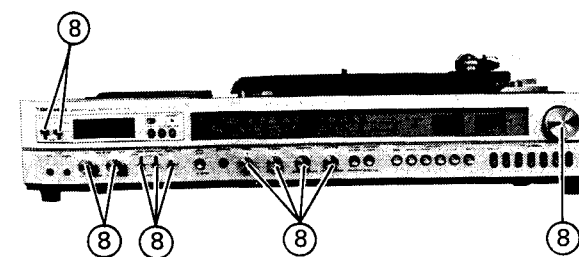

Figure 11.
4. Remove the 12 knobs ⑧. See figure 11.